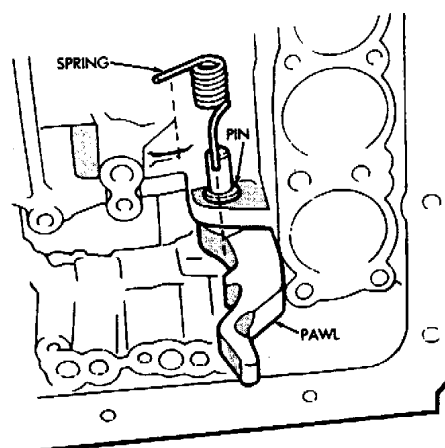

Fig. 10 Installing Park Lock Pin/Spring/Pawl
- (13) Install park lock pawl, spring and pin (Fig. 10).